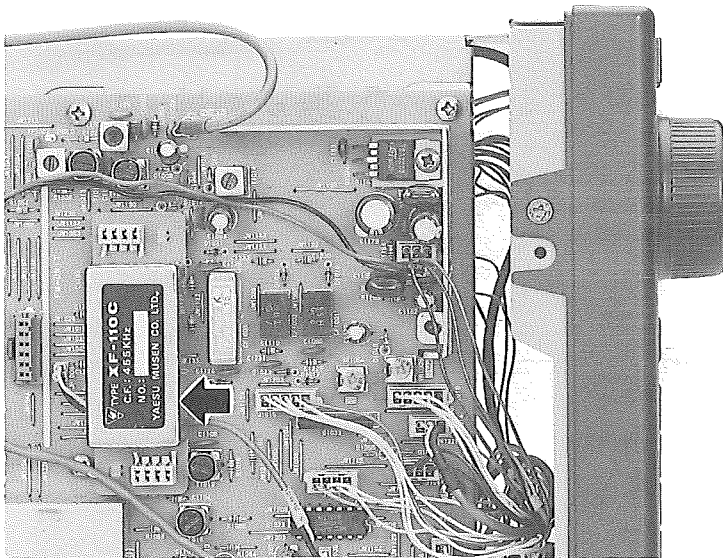

Figure 5: Filter Installation
- ☐ When the filter unit has been mated to the connector pins, gently press down *by the ends* until the nylon mounting stand-offs push through the holes in the filter unit board and expand to lock it in place (Figure 5). You may now replace the cover.